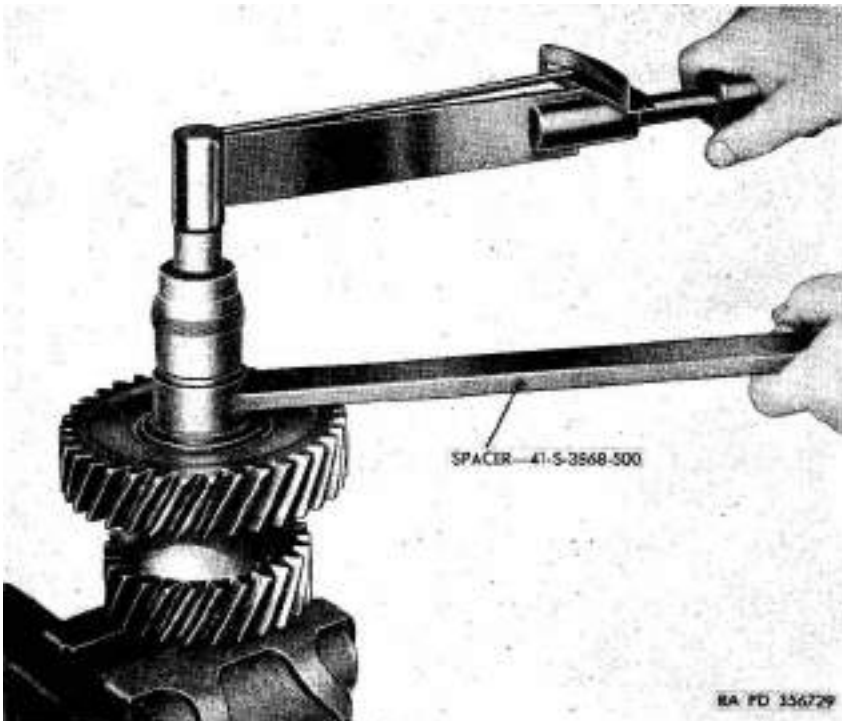

Figure 137. Location of spacer on idler gear shaft.
- (3) Place idler gear (PP) on shaft (small gear down), and install other bearing cone (RR), spacer 41-S-3868-500 (*fig. 137*), 29/32 ID, 1 $\frac{3}{4}$ OD, plain washer (UU), and $\frac{7}{8}$ -16NC slotted nut (V V) .
- (4) Hold spacer 41-S-3868-500 (*fig. 137*) and tighten nut to 140 to 160 pound-feet torque with a torque indicating wrench and socket.
- (6) Remove nut, washer, and spacer 41-S-3868-500 (*fig. 137*) from idler gear shaft. Remove parts from vise and disassemble them.